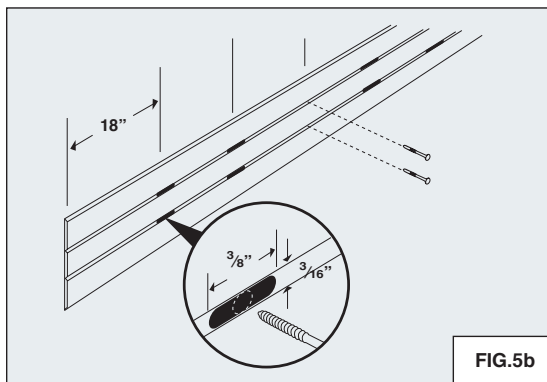

FIG.5b
- Using a rotary tool with a spiral bit, enlarge the pre-drilled holes into slots, leaving the two holes in the center of the cladding unslotted. Be sure to cut generous slot lengths, especially near the ends of the cladding to avoid complications from contraction and expansion. Cutting slots of insufficient length may result in complications such as buckling of the cladding or breakage of screws. If necessary, use the expansion/contraction charts to look up the predicted expansion and contraction of your fascia cladding. (REFER TO FIG.5b)